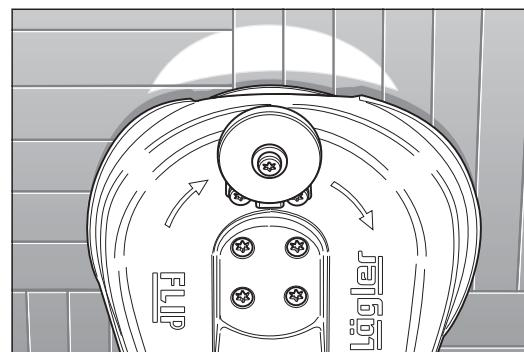

Fig. 59 Proper adjustment of the guide rollers:
- 8 If the machine sands **centrally** (fig. 59), the guide rollers are properly adjusted.